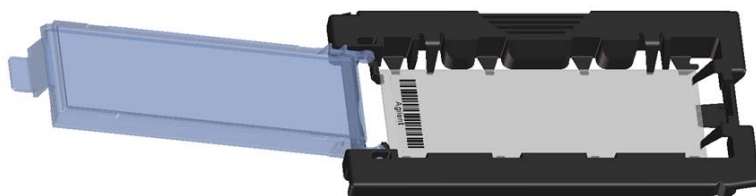

Figure 8 Slide inserted in slide holder
- d** Gently lower the slide into the slide holder. See Figure 8.